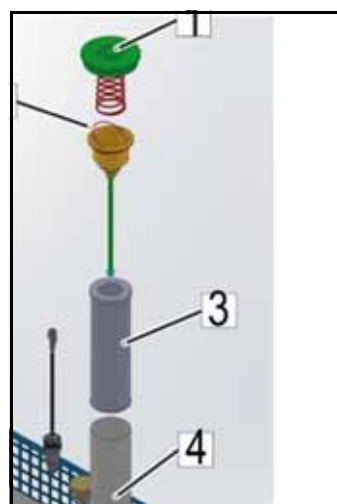

Fig. 281 Filter insert
- Remove the filter cover (1) (**Fig. 281**) using the 24 mm socket wrench insert.
- Pull the filter housing (4) out of the filter chamber (5) by its stirrup (4).
- Remove the filter insert (3) from the filter housing (4).